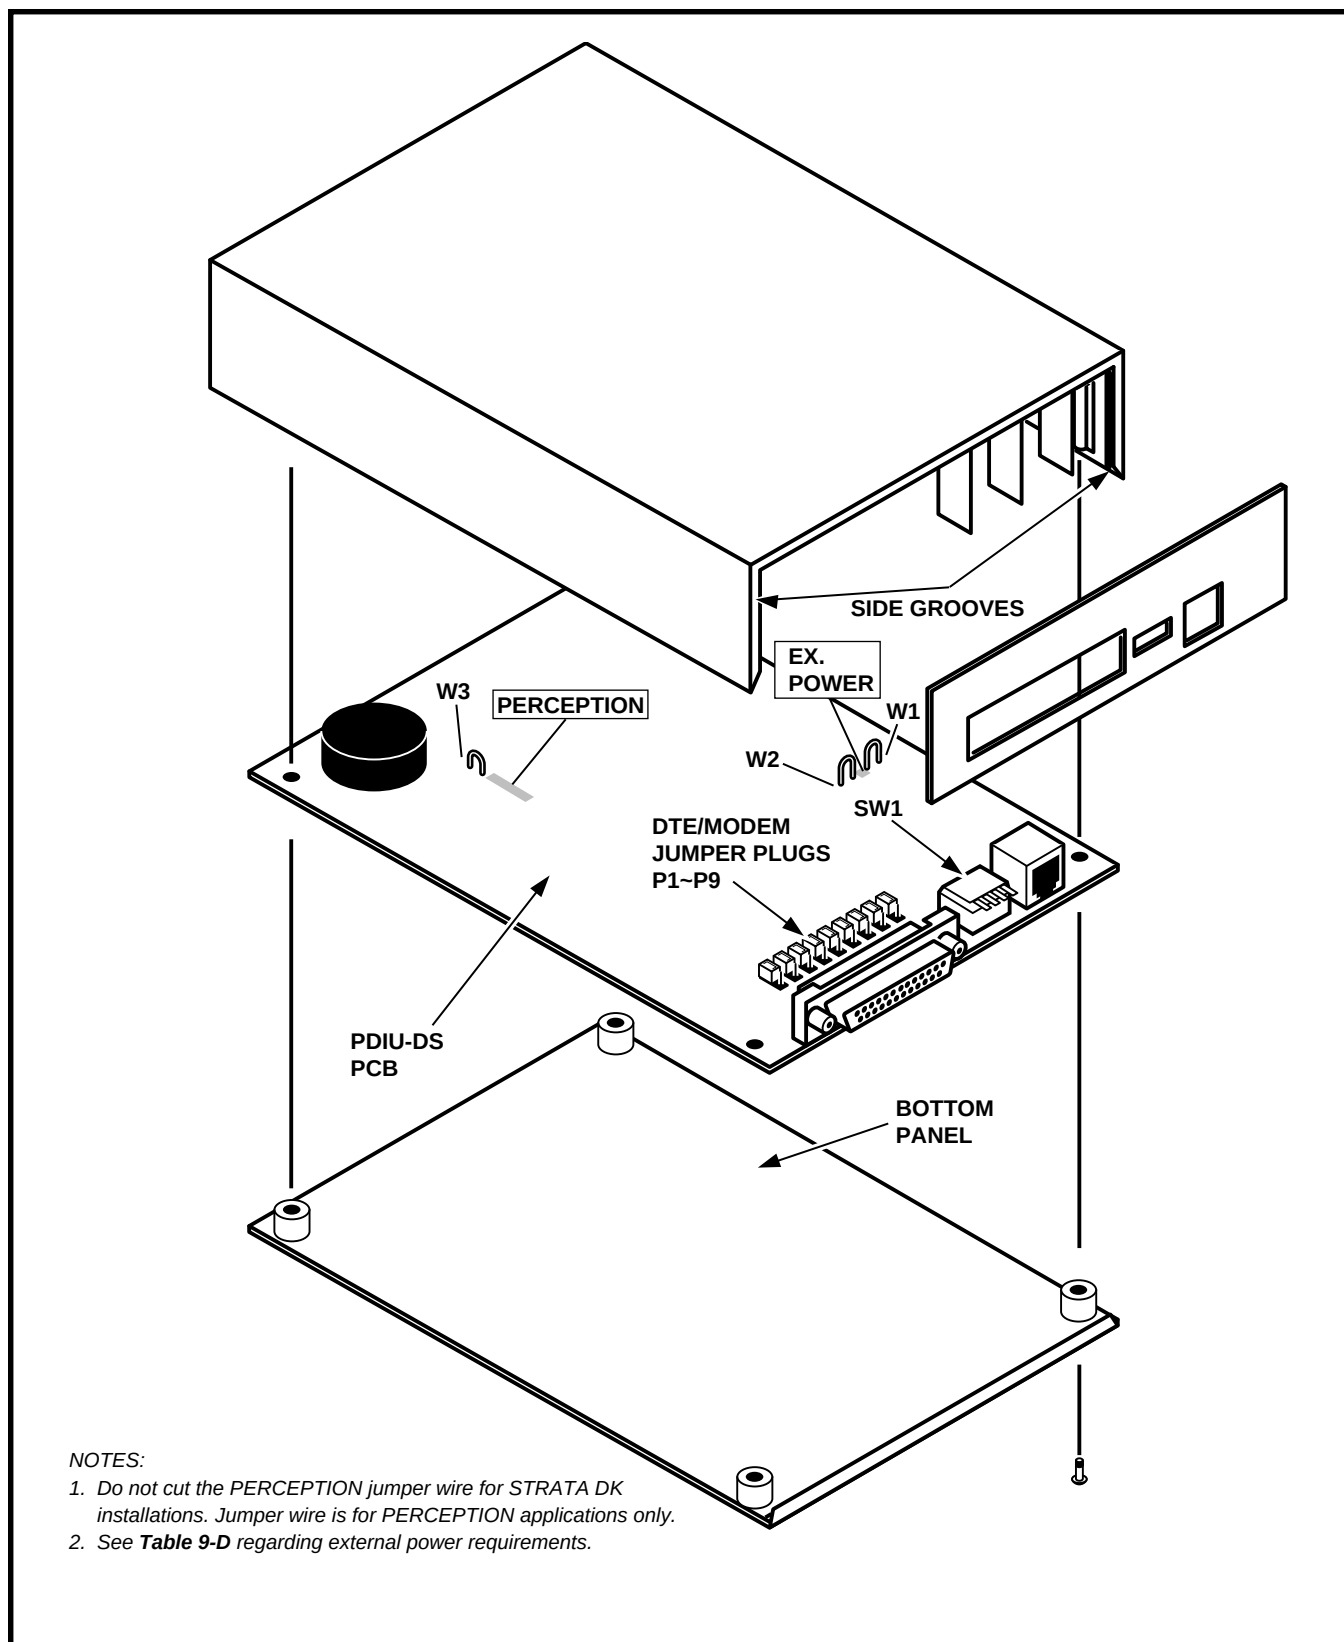

FIGURE 8-37
3. See Figure 8-37 to disassemble/assemble PDIU-DS.
- 1) Remove the four screws securing the bottom panel to the rest of the unit. (See Figure 8-37.) These screws are not captive; so place together where they can be easily accessed.
- 1) Position the back panel to the PCB (see Figure 8-37).